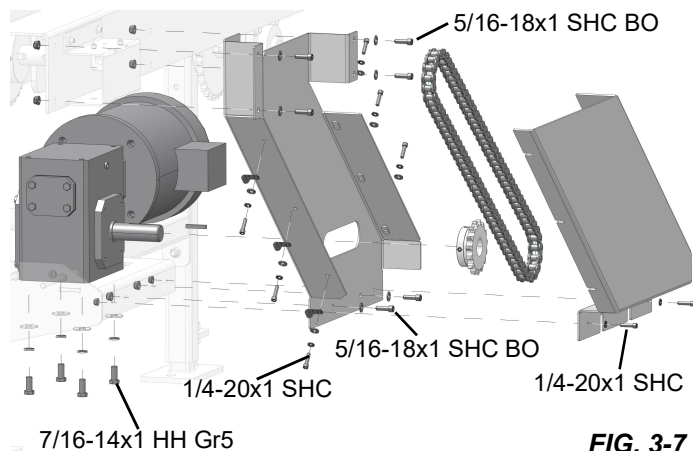

FIG. 3-7
- Bolt down the gear motor to the shelf, but do not tighten securely yet. See FIG. 3-7.
- Bolt the back cover to the frame as shown in FIG. 3-7.